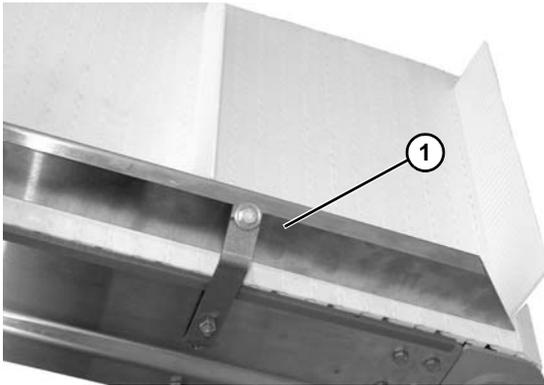

Figure 42
1. Remove guides (**Figure 42, item 1**) when required.